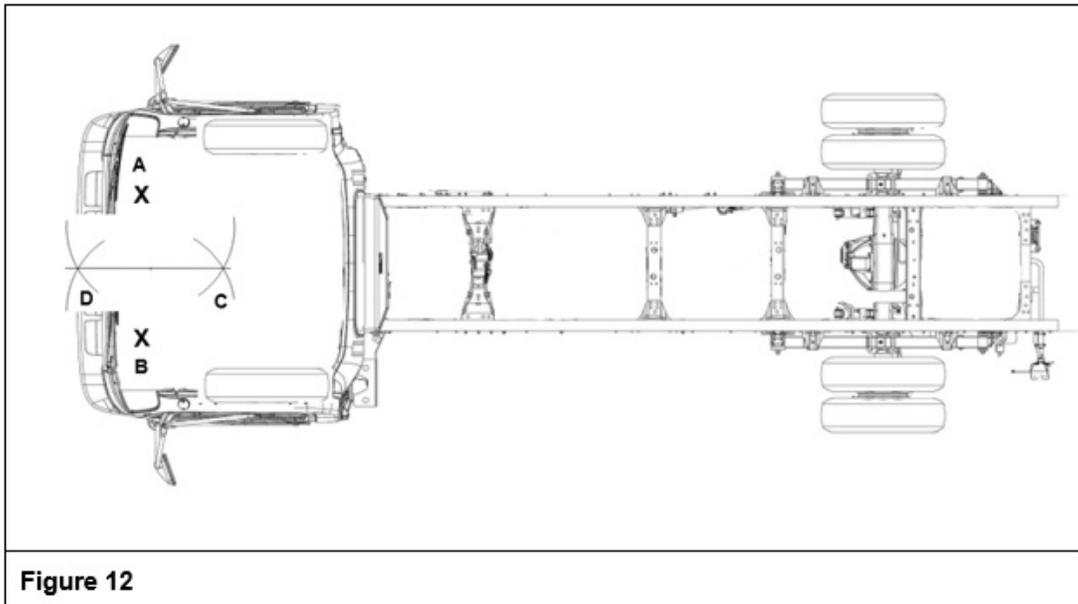

Figure 12
NOTE: When performing Steps 15 – 20, refer to Figure 12.
15. Using the Plumb Bob weight point, hold one of the loops steadily on **Point (A)** made on the passenger's side of the vehicle. Place the capped marker pen into the other loop and put the string taut. Pull the taut string towards to the rear-center of the vehicle to make an estimation of where the masking tape should be for marking the floor and put down a piece of masking tape. (See Figure 12.)
17. Perform Steps 15 and 16 towards the front-center of the vehicle to create a marked arc on the floor at **Point (D)**. (See Figure 12.)
18. Place the point of the Plumb Bob weight into one loop with the point lightly pressed down directly on the center of **Point (B)** made on the driver's side of the vehicle. Place the capped marker pen into the other loop and pull the string taut. Pull the taut string towards to the rear-center of the vehicle to determine if more masking tape is needed on the floor. Lay down more masking tape as necessary. (See Figure 12.)
19. Perform Step 18 again, but with the marker pen uncapped, to create about crossed arc at **Point (C)** on the floor. (See Figure 12.)
20. Perform Steps 18 and 19 towards the front-center of the vehicle to create a crossed arc at **Point (D)** on the floor. (See Figure 12.)